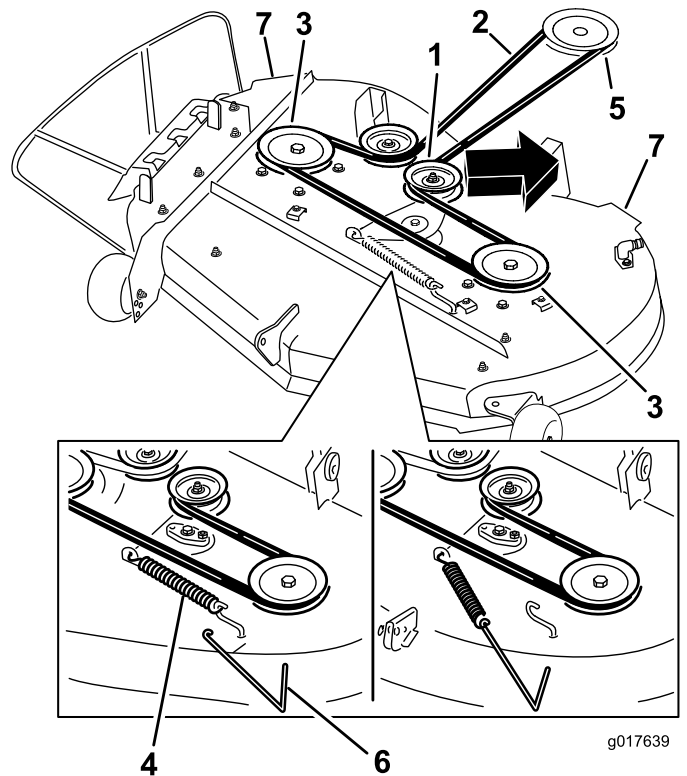
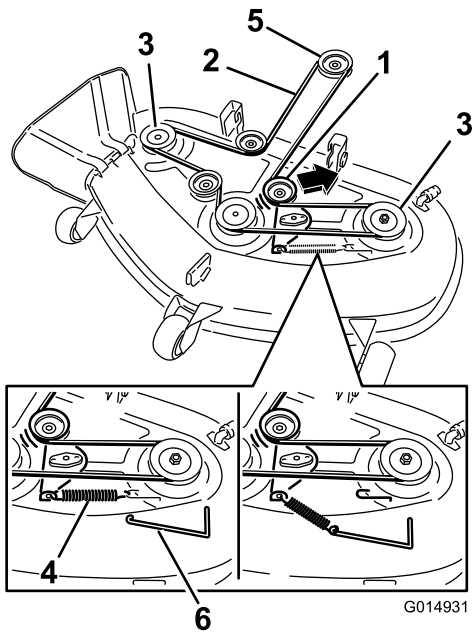

Figure 60
Figure 61
5. Using a spring removal tool, (Toro Part No. 92-5771), remove the idler spring from the deck hook to remove tension on the idler pulley and roll the belt off the pulleys (Figure 60 and Figure 61).
6. Route the new belt around the engine pulley and mower pulleys (Figure 60 and Figure 61).
7. Using a spring removal tool, (Toro Part No. 92-5771), install the idler spring over the deck hook and placing tension on the idler pulley and mower belt (Figure 60 and Figure 61).